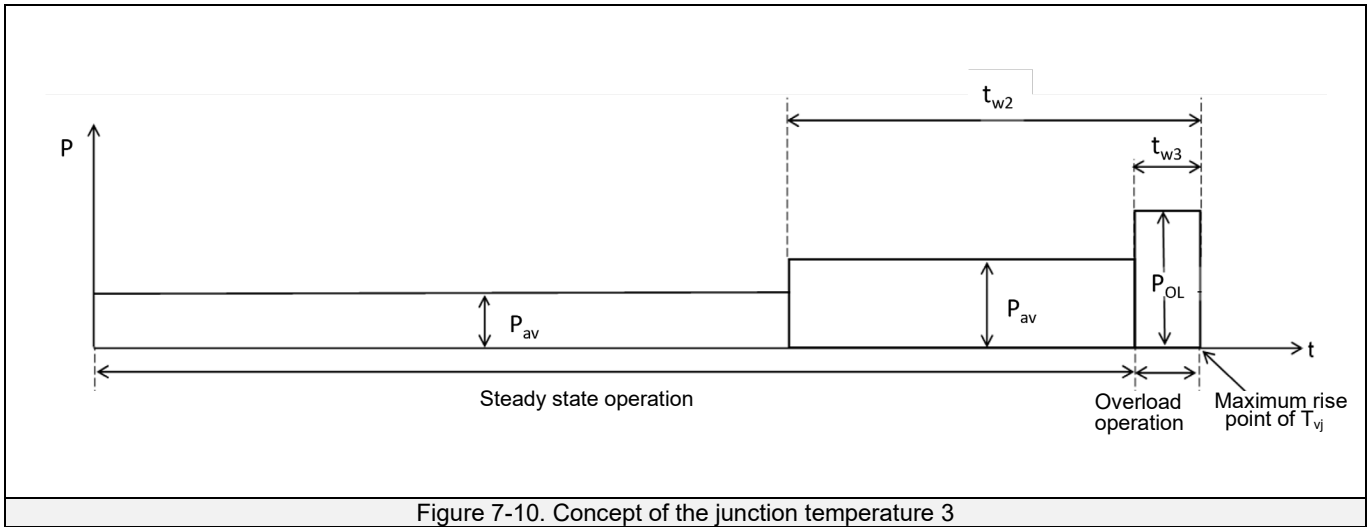

Figure 7-10. Concept of the junction temperature 3
(2) Overload from steady-state operation
In this case, ripple due to POL must also be taken into consideration. As in the case of (1), perform a square wave approximation as shown in Figure 7-10.